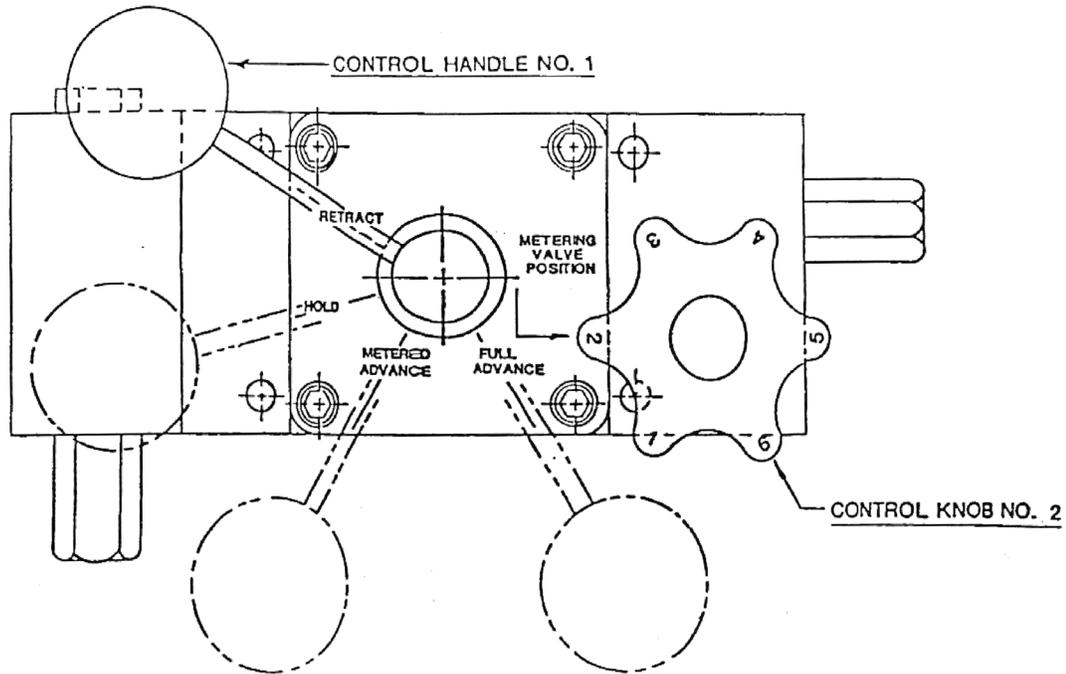

Figure 1
Placing Control Handle No. 1 (see Figure 1) into the metered advance position allows the operator to adjust the rate of loading through the use of Control Knob No. 2. To increase the rate of loading, turn Knob No. 2 counter-clockwise. To decrease the rate of loading, turn Knob No. 2 clockwise.
Placing Control Handle No. 1 into the hold position (see Figure 1) stops the loading of the specimen and holds the pressure on the specimen at that point.
9.5 Figure 1: Control Valve
5. On the top of the machine, loosen the 3/8in nuts (Part 1) to the end of the tension rod threads (Part 2) and stop. Refer to Figure 1 on page 2.